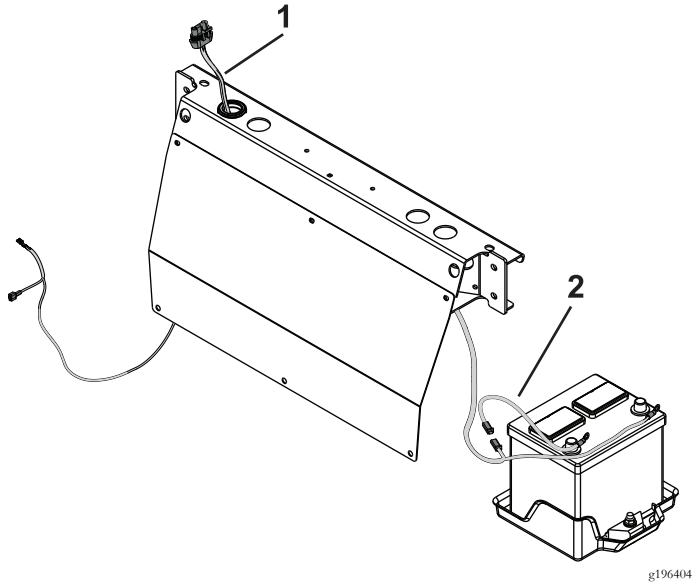

Figure 41
1. Arrange the wire harness as shown in Figure 41.